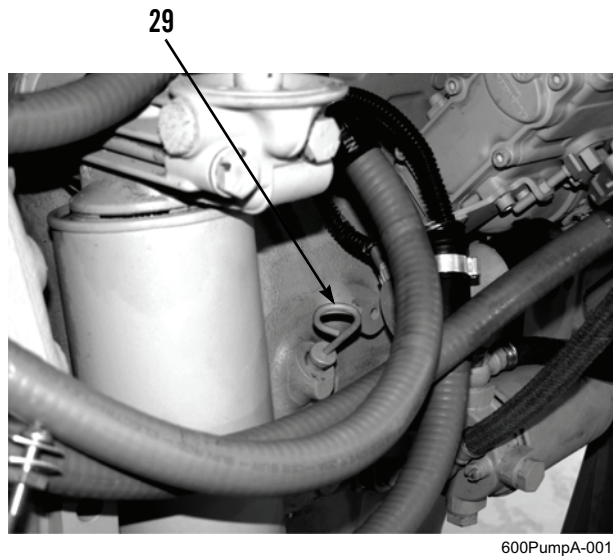

Figure 9. Engine Oil Level Dipstick.
21. Remove engine oil level dipstick (Figure 9, Item 29).